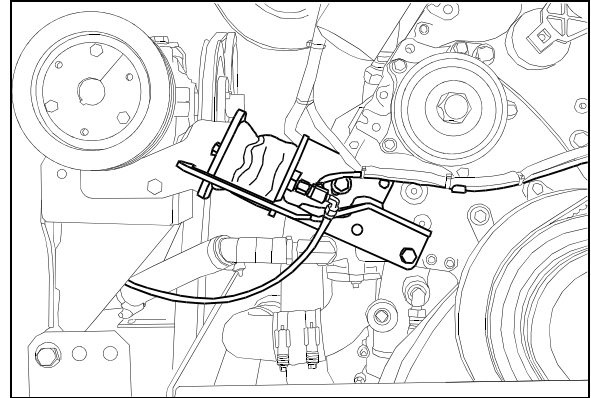

FIGURE 23: BELT TENSIONER 01059
*For proper operation of the air bellows, adjust the **upper** tensioning bracket to provide a ¼ inch (7 mm) gap between stopper and bracket with the pneumatic system under normal pressure and the air pressure regulator set as per paragraph #3 (Fig. 23).*